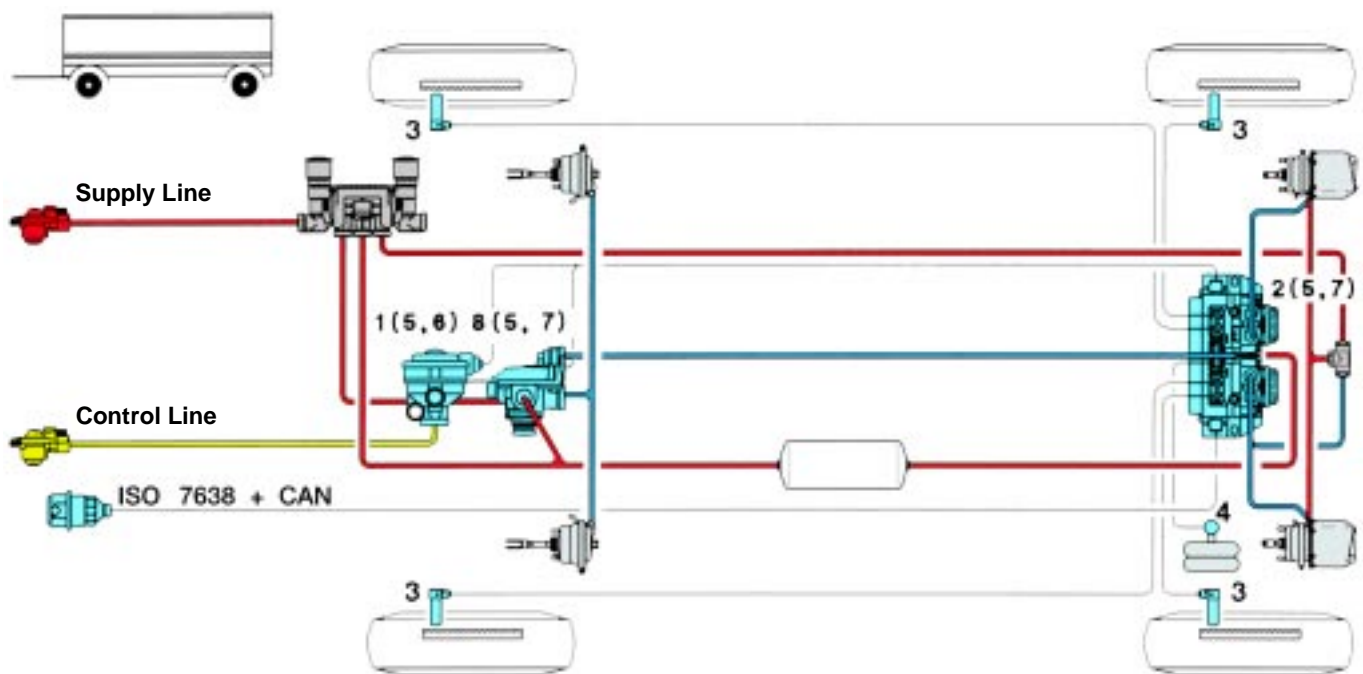

Fig. 2-2: Braking system 4S/3M for towbar trailers
Extending this configuration by an EBS relay valve (8) for controlling the pressure of the front axle on towbar trailers or a third axle of semitrailers produces a system known as 4S/3M (Fig. 2-2).